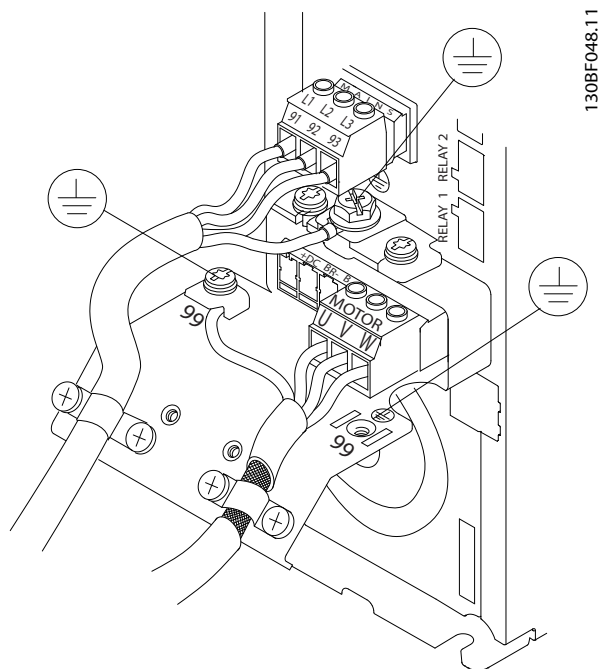

Figure 4.5 Example of Motor, Mains, and Ground Wiring
Figure 4.5 shows mains input, motor, and grounding for basic frequency converters. Actual configurations vary with unit types and optional equipment.
1. Connect the 3-phase AC input power wiring to terminals L1, L2, and L3 (see *Figure 4.5*).